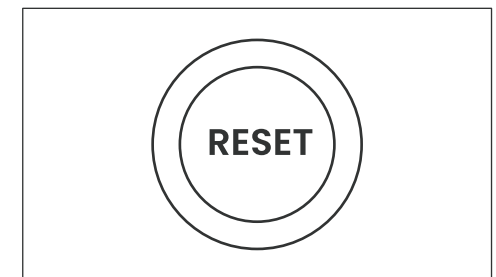

Fig.17
- 4 Press the RESET button on the control panel for 3 seconds (see **Fig.17**).